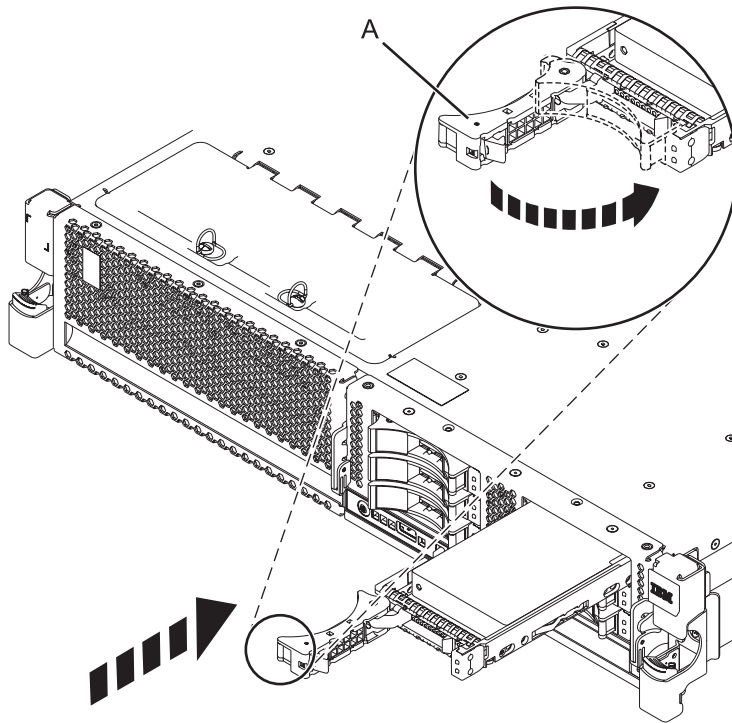

Figure 49. Installing a disk drive in the system
6. When the identify LED turns on solid, slide the drive all the way into the system or an expansion unit, and push the drive handle (A) in until it locks, as shown in Figure 49.